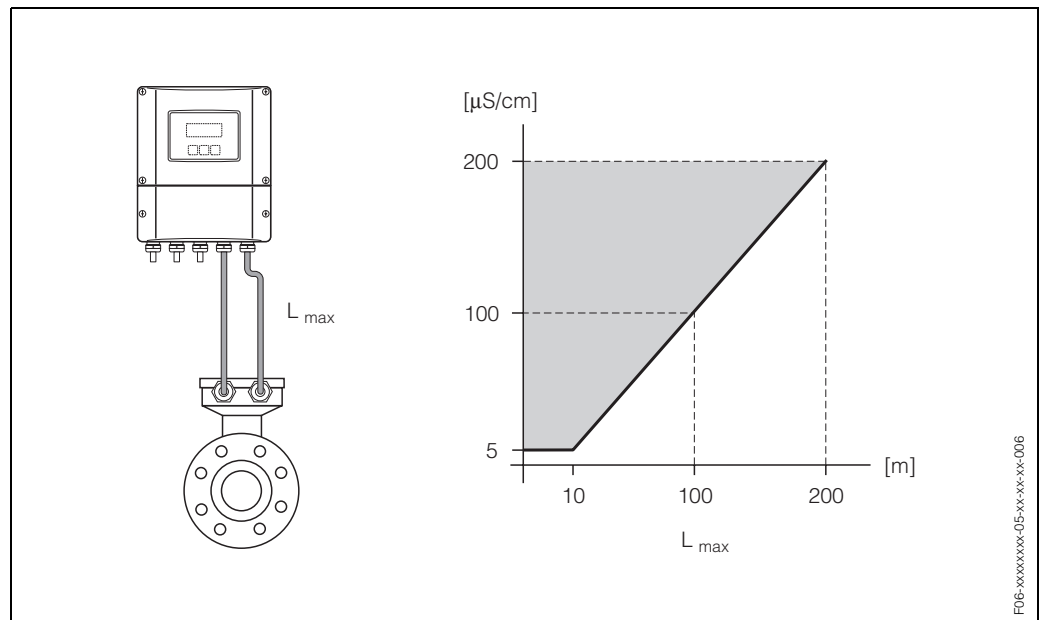

Fig. 16: Permissible cable length for the remote version
- The permissible cable length L_{max} depends on the fluid conductivity (Fig. 16).